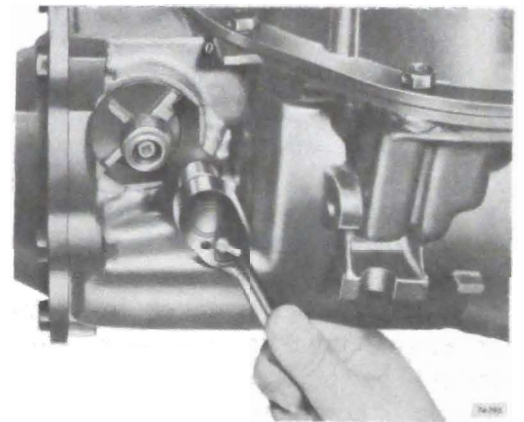

Figure 76-793
2. Install the speedometer driven gear retainer and attaching bolt. See Figure 76-793.